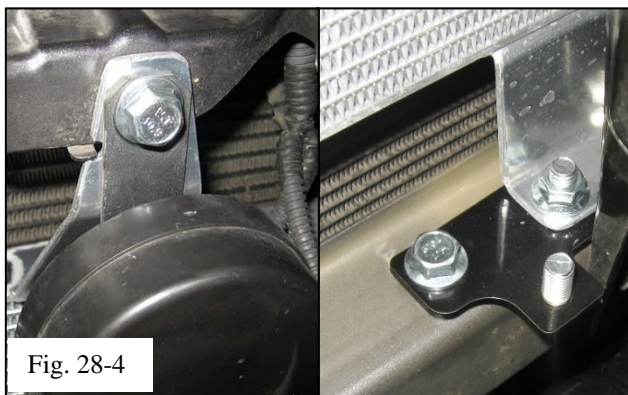

Fig. 28-4
- (b) Secure the low temperature radiator by reattaching the horns with the M8 Bolts (Item A5) and M8 Hex Nuts (Item A8) (Fig. 28-4). Leave them finger tight for now.